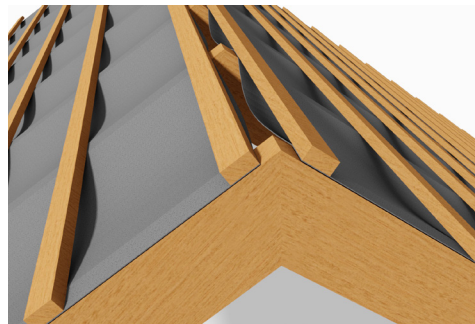

fig 6: Ridge ventilation
6. Where ridge ventilation is not being provided, the Danelaw LR120T should extend over the ridge and overlap the underlay on the opposite side of the roof by the required amount. When being used in conjunction with ridge ventilation, the underlay should be cut or terminated and secured to ensure that the ventilation path remains clear along the length of the ridge (fig. 6).